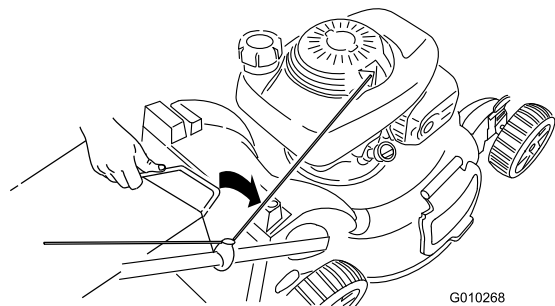

Figure 30
3. Insert the grass bag handle into the grooves at the top of the mower (Figure 30).